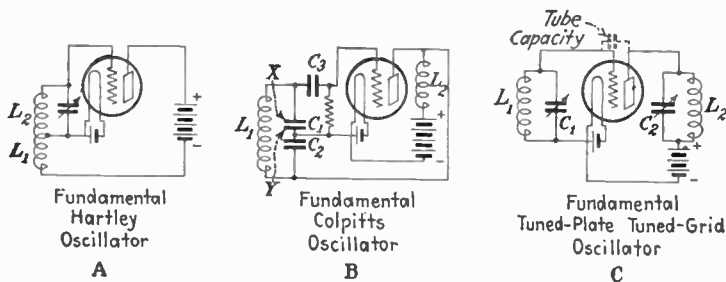

FIG. 4.—A. Hartley, B. Colpitts, and C. tuned-plate, tuned-grid oscillators.
*Ans.* Three oscillating systems are illustrated in Fig. 4, i.e., Hartley, Colpitts, and tuned-plate, tuned-grid.
The theory of the generation of oscillations is the same as the tuned-plate, tuned-grid system in Fig. 4, with the crystal forming the grid-oscillatory circuit instead of the grid inductance and capacity,  $L_1C_1$ .